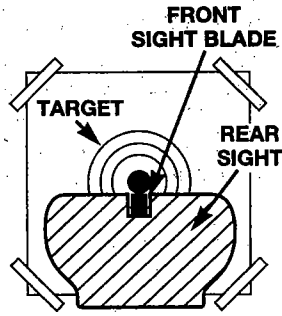

FIG. 5
- The rifle is correctly aimed when the front sight blade is positioned exactly in the notch of the rear sight. The top of the front sight blade should be even with the top of the notch in the rear sight. The bulls-eye should appear to rest on the top of the front sight. (Fig. 5)